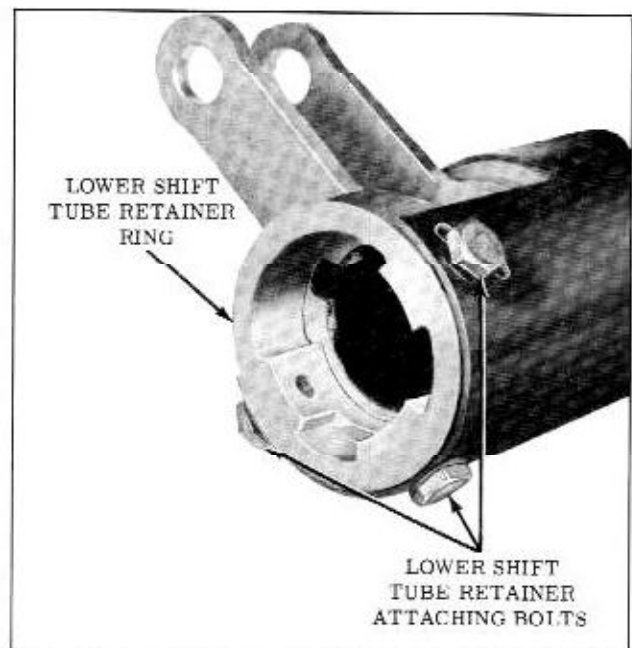

Fig. 4-18 Lower Shaft Tube Retainer
16. Remove (3) bolts from lower shift tube retainer. (Fig. 4-18)
finger tight. Position as shown in Fig. 4-18.
26. Adjust clearance between lower shift lever and retaining ring to .005 inch by moving the retaining ring back and forth in slanted slot of mast jacket as shown in Fig. 4-18.
3. Install the shift tube retaining ring in bottom of mast jacket, compressing the spring. Position as shown in Fig. 4-18. Tighten shift tube retainer ring attaching bolts with bolts in uppermost position of slots.